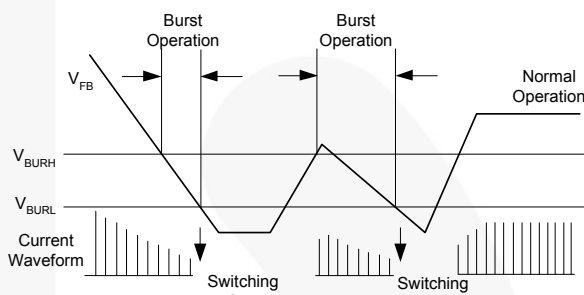

Figure 17. Burst Operation Function
**6. Burst Operation:** To minimize power dissipation in Standby Mode, the FPS enters Burst Mode. Feedback voltage decreases as the load decreases and, as shown in Figure 17, the device automatically enters Burst Mode when the feedback voltage drops below  $V_{BURH}$  (typically 600mV). Switching continues until the feedback voltage drops below  $V_{BURL}$  (typically 400mV). At this point, switching stops and the output voltage starts to drop at a rate dependent on the standby current load. This causes the feedback voltage to rise. Once it passes  $V_{BURH}$ , switching resumes. The feedback voltage then falls and the process is repeated. Burst Mode alternately enables and disables switching of the SenseFET and reduces switching loss in Standby Mode.